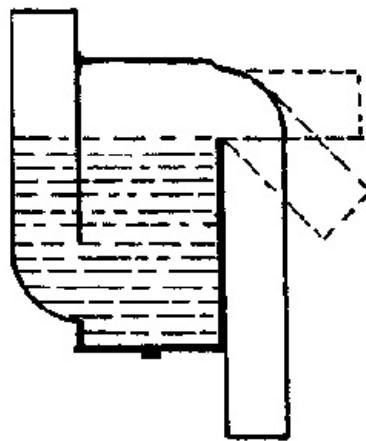

Fig. 63.—Clean-sweep trap.
*Clean Sweep Trap*, Fig. 63. Some clean sweep traps are dependent upon an inside wall for their seals. They are made of  $\frac{1}{2}$ -S,  $\frac{3}{4}$ -S, and full S.